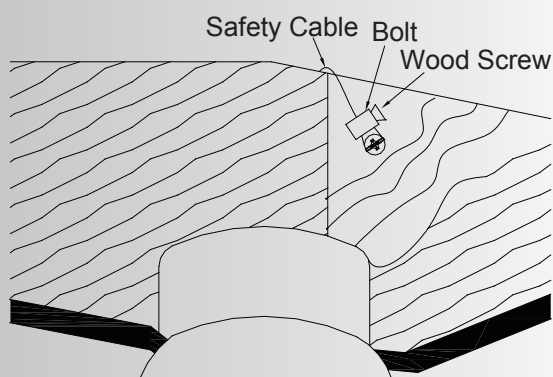

Fig. 7
**Step 2.** Insert the safety cable through the mounting bracket and one of the holes in the outlet box into the ceiling. Adjust the length of the safety cable to reach the screw and washers by pulling the extra cable through the cable clamp until the overall length is correct, put the end of the cable back through the cable clamp, forming a loop at the end of the cable. Tighten the cable clamp securely. Now, put the loop in the end of the safety cable over the wood screw and under the washer. Tighten the wood screw securely. (Fig. 7)